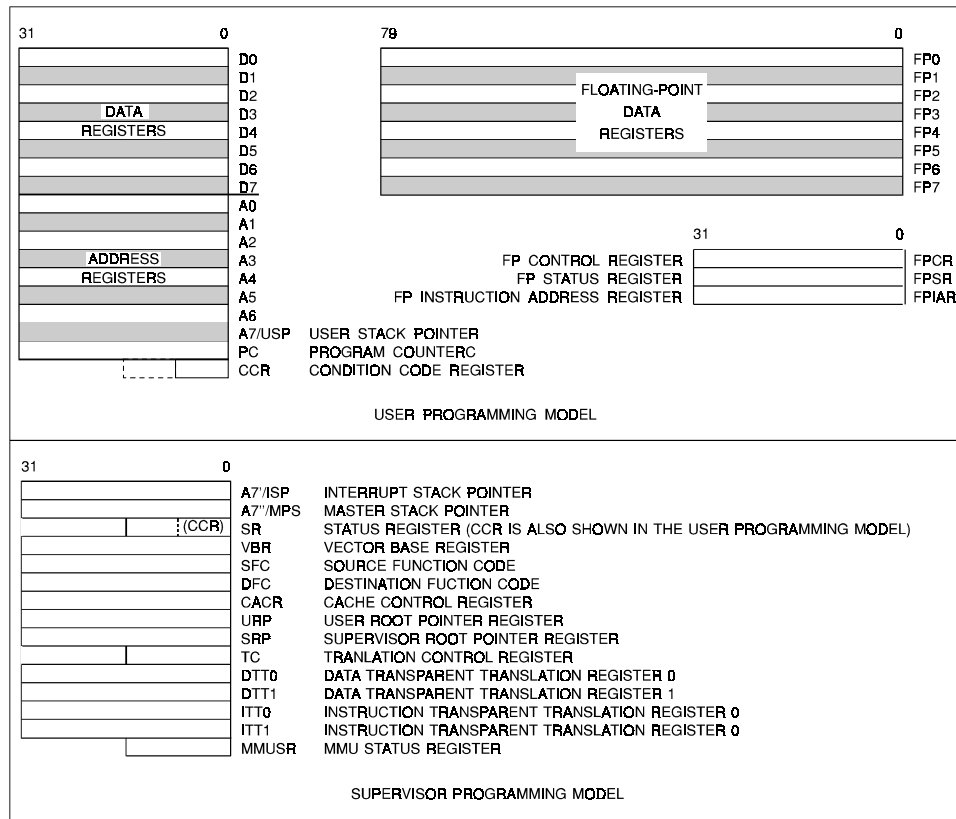

Figure 20 : Programming model.
The TS 68040 integrates the functions of the integer unit, MMU, and FPU. As shown in Figure 20, the registers depicted in the programming model provide access and control for the three units. The registers are partitioned into two levels of privilege : user and supervisor. User programs, executing in the user mode, can only use the resources of the user model. System software, executing in the supervisor mode, has unrestricted access to all processor resources.
Registers D0-D7 are data registers containing operands for bit and bit field (1 to 32 bits), byte (8 bit), word (16 bit), long-word (32 bit), and quad-word (64 bit) operations. Registers A0-A6 and the stack pointer registers (user, interrupt, and master) are address registers that may be used as software stack pointers or base address registers. Register A7 is the user stack pointer in user mode, and is either the interrupt or master stack pointer (A7' or A7'') in supervisor mode. In supervisor mode, the active stack pointer (interrupt or master) is selected based on a bit in the status register (SR). The address registers may be used for word and long-word operations, and all of the 16 general-purpose registers (D0-D7, A0-A7 in Figure 20) may be used as index registers.
The translation control register (TC) enables logical-to-physical address translation and selects either 4K or 8K page sizes. As shown in Figure 20, there are four transparent translation registers - ITT0 and ITT1 for instruction accesses and DTT0 and DTT1 for data accesses. These registers allow portions of the logical address space to be transparently mapped and accessed without the use of resident descriptors in an ATC. The MMU status register (MMUSR) contains status information from the execution of a PTEST instruction. The PTEST instruction searches the translation tables for the logical address as specified by this instruction's effective address field and the DFC.